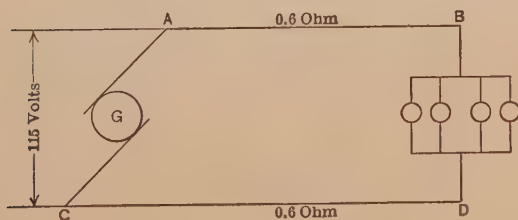

FIG. 57.
**Prob. 1.** The generator in Fig. 57 delivers a pressure of 115 volts.